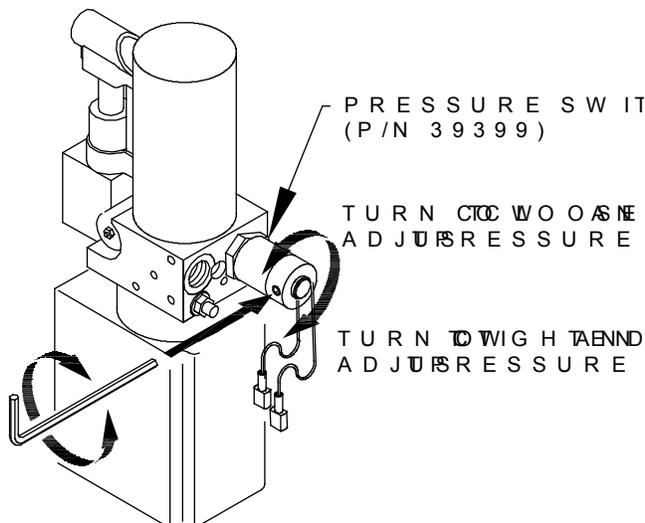

FIGURE 2-17: HYDRAULIC PUMP WITH DECELERATION
- f. Refer to **Figure 2-17**. Loosen the locking set screw from the hydraulic pressure switch, using a 5/64" hex wrench to allow adjustment of the hydraulic pressure switch.